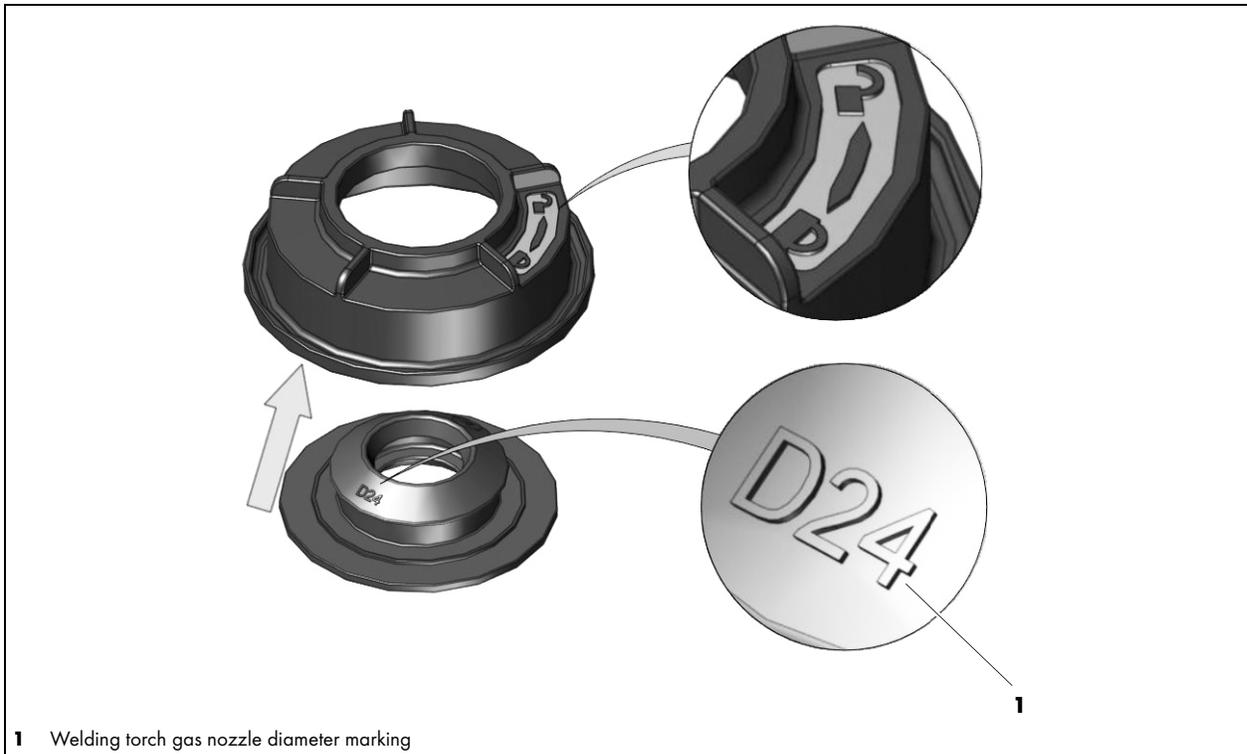

Fig. 11 Attaching the rubber seal
□ Fig. 11 Attaching the rubber seal on page EN-19